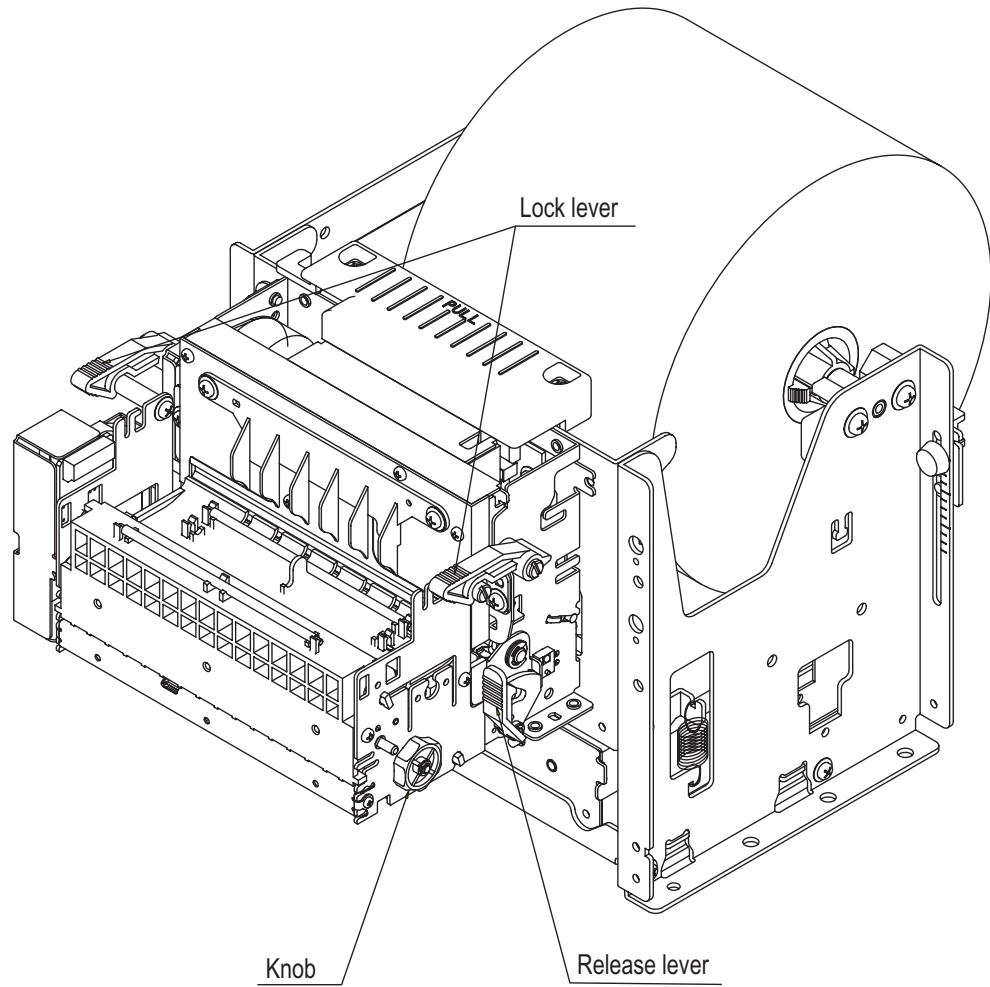

Fig.9.5.2.
Fig. 9.5.2 shows the locations to operate (levers/knob) when paper becomes jammed. Remove jammed paper according to the following procedures.
3) Fig. 9.5.2 is a conceptual view of a model equipped with a presenter. On models not equipped with a presenter, operate only the release lever to open the platen unit.